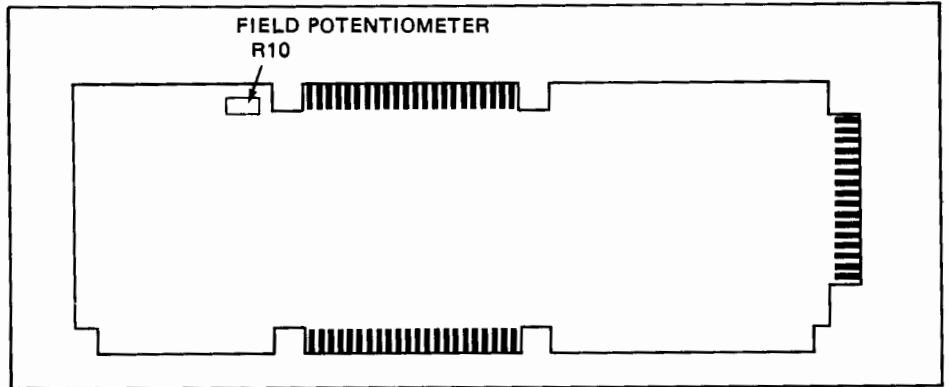

Figure 5-6. Location of Field Potentiometer R10 on Display Enhancement PCA
4. If necessary, adjust Display Enhancement PCA FIELD potentiometer R10 to center full bright and half bright inverse video fields over characters displayed on monitor (figure 5-6).